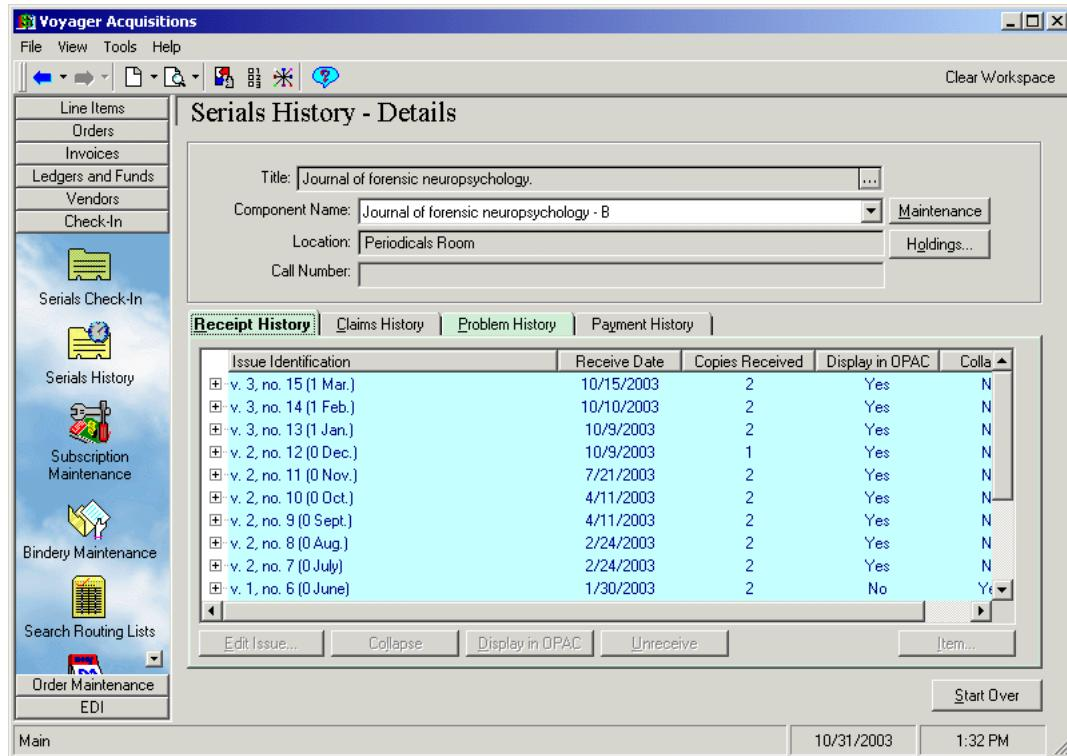

Figure 13-9. Serials History work space - ellipsis displayed beside the Title field
- The **ellipsis** button beside the **Title** field at the top of the **Serials History** screen (see Figure 13-9). There are numerous ways to display the **Serials History** screen. See Serials History Information on page 9-28 for more information.